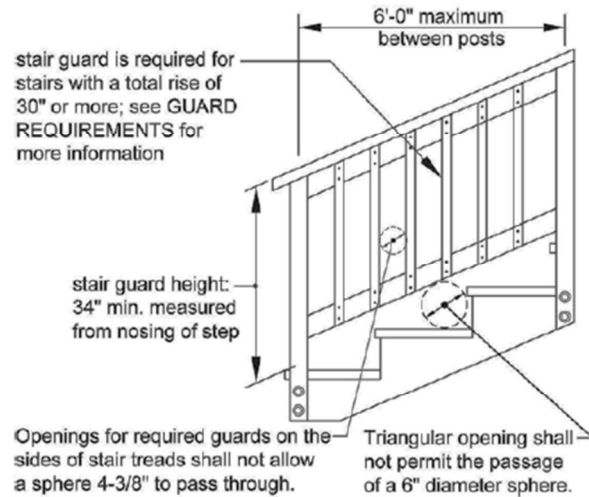

Figure 6
11. Handrail height, measured vertically from the sloped plan adjoining the tread nosing, or finish surface of ramp slope, shall not be less than 34 inches and not more than 38 inches. (see figure 6)